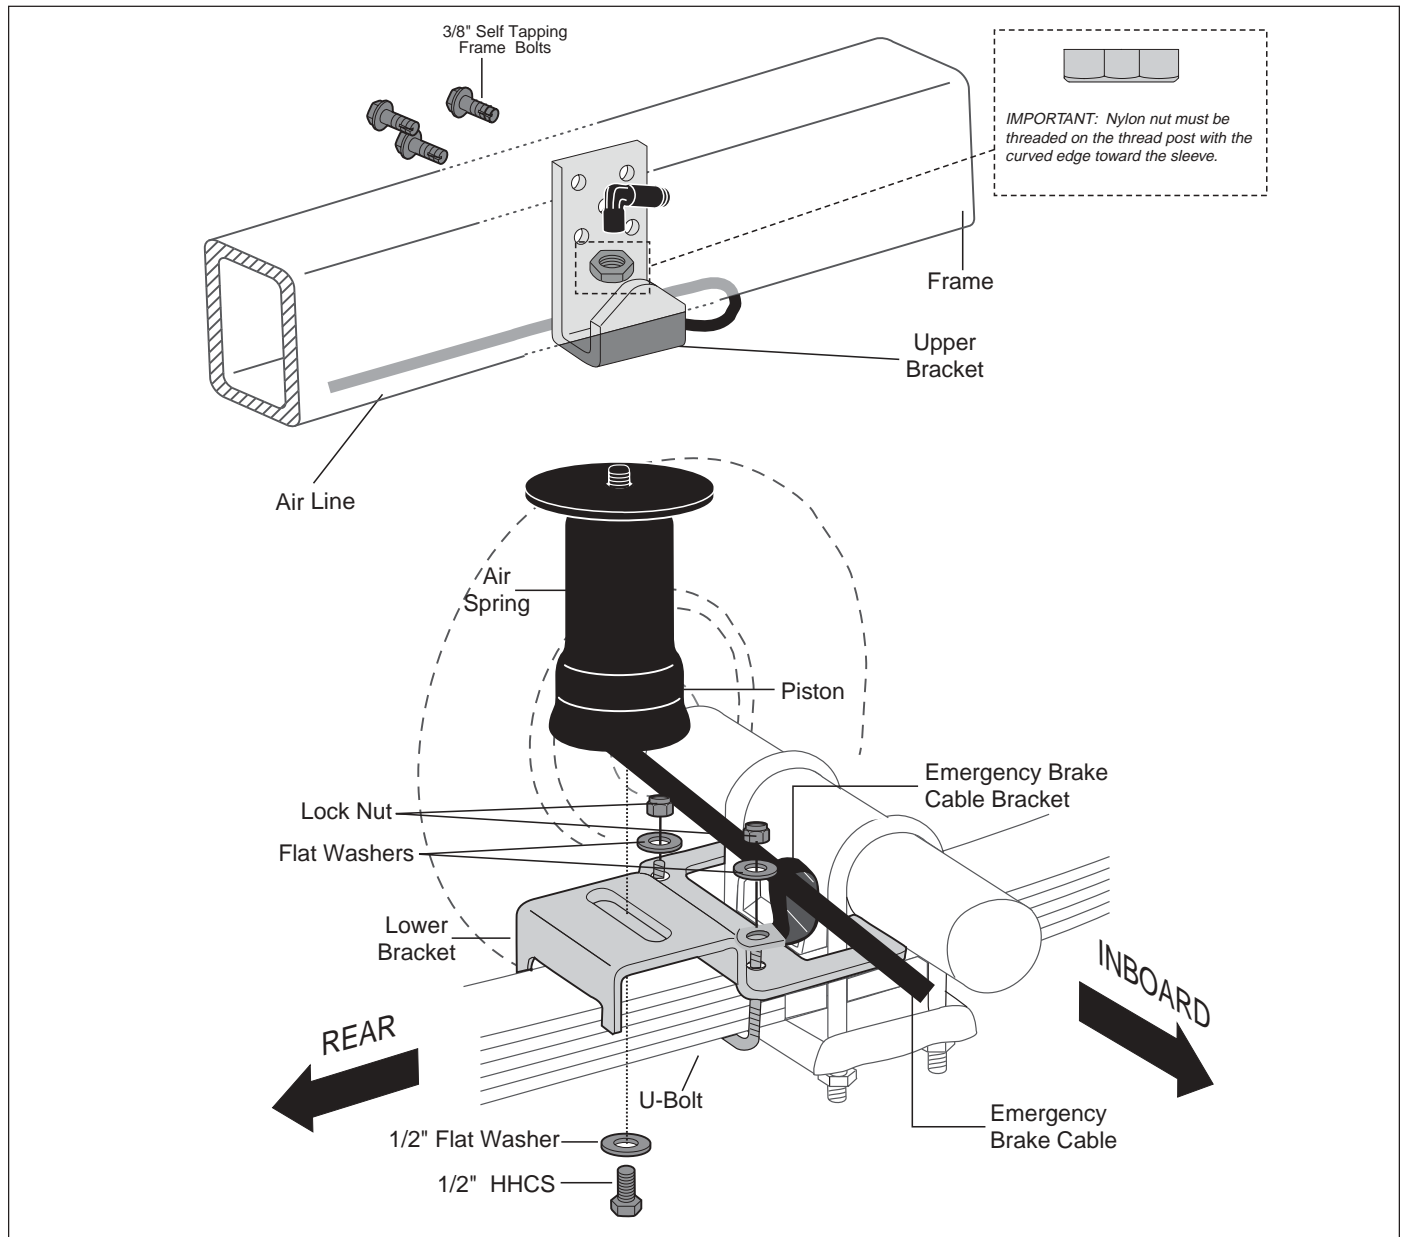

Figure 1
2. Insert the attached air fitting through the bottom of the J-bracket. Position the air fitting towards the rear of the vehicle for proper air line routing (Figure 1).
3. Slide the provided nylon nut over the air fitting and onto the threaded post. Make sure the curved side of the nut points toward the air spring (Figure 1).
NOTE: The nylon nut must be threaded on the thread post with the curved edge facing toward the sleeve (Figure 1).
5. Loosely attach the lower bracket to the bottom of the sleeve using a 1/2" bolt and 1/2" flat washer (Figure 1).
3. Set the assembly onto the leaf spring behind the axle. Butt the bracket against the spring perch. Make sure the "hook" or "finger" of the bracket is forward of the U-bolt (Figure 1).
4. Install the emergency brake cable clamp onto the emergency brake cable as shown in Figure 1. Secure the lower bracket to the leaf springs by using the provided U-bolts, flat washers, and locknuts.
NOTE: The emergency brake cable clamps will attach to the inside post of the U-bolt (Figure 1).
- b. Attach the upper bracket using the self-tapping frame bolts and tighten to 15 ft/lbs (Figure 1). Do not over tighten.
If the vehicle's headlights are shining into the trees or the vehicle is leaning to one side, then it is not level (fig. 1). Raise the air pressure to correct either of these problems and level the vehicle.